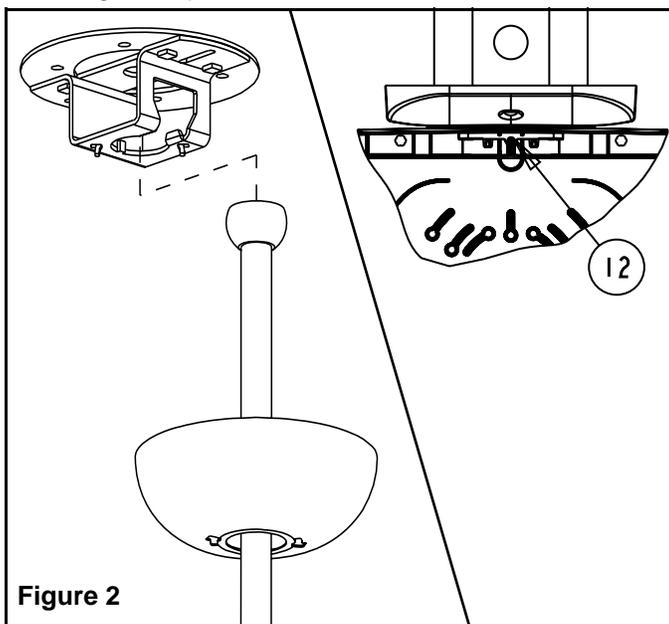

Figure 2
6. Slide the swivel/stem assembly into the canopy backplate (see fig. 2).
8. Slide the bracket cover onto the stem (see fig. 2).
11. Mount one side of the die cast exit sign to the bracket using the screws from the die cast exit (see fig. 2). Put the front cover back on the unit as described in the exit sign mounting instructions.